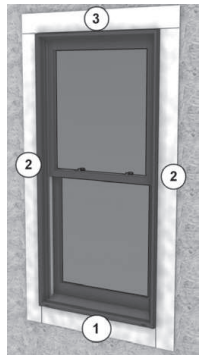

Figure 7
9. **(Recommended)** Following the flashing manufacturers' recommendations, apply flashing to the nail fins and surrounding wall surface starting with the bottom, then the sides, & finally the top, creating a shingle effect. (see **Fig. 7**)